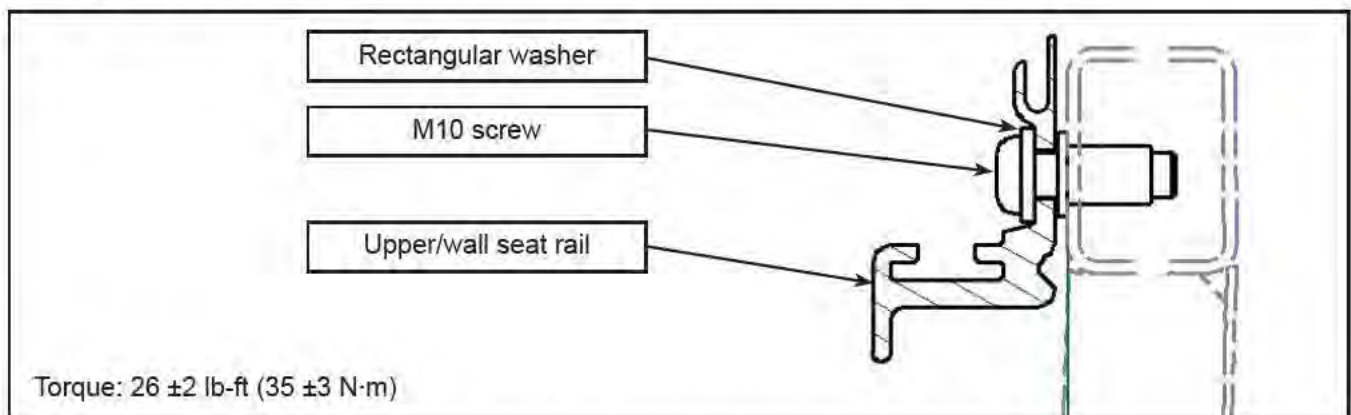

Figure 13 - Upper/Wall Seat Rail
- d. From the rear to the front, make a first tightening to the torque value shown in Figure 13.